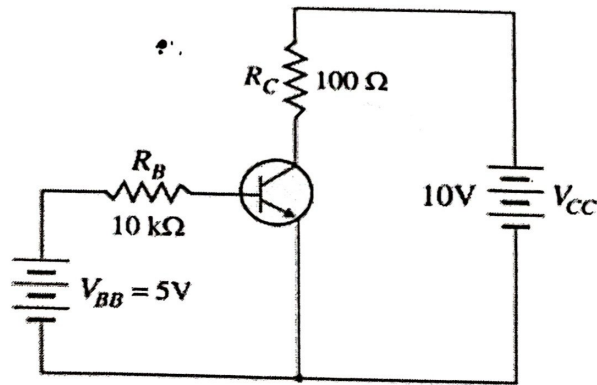

Fig. 1
c) The transistor shown in figure 1 is of silicon and has $\beta = 150$